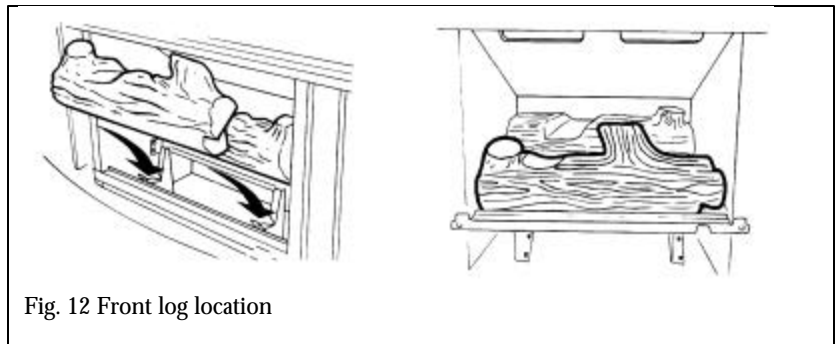

Fig. 12 Front log location
8.2 Place the front log on the retaining cradles between the rear and front burner tubes (fig. 12). Center the log so that the gap to the firebox walls is the same at each side.